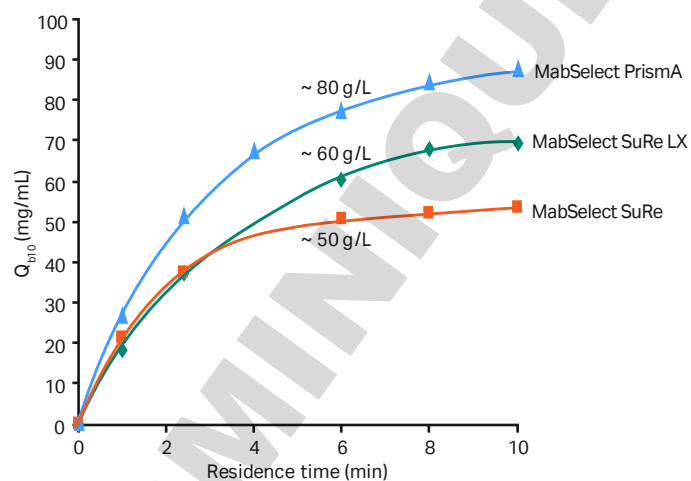

Fig 2. MabSelect PrismaA is developed to meet future demands in large-scale mAb processing.
Due to the enhanced properties of both the Protein A ligand and the base matrix design, MabSelect PrismaA offers significantly increased binding capacity compared with its predecessor, MabSelect SuRe LX resin (2). Figure 2 shows DBC of MabSelect PrismaA as compared with MabSelect SuRe and MabSelect SuRe LX resins at different residence times. Compared with MabSelect SuRe LX, the optimized base matrix of MabSelect PrismaA offers an up to 40% increase in DBC at a residence time of 2.4 min or up to 30% increased binding capacity at 4 min residence time. At 6 min residence time, a binding capacity of ~ 80 mg human IgG /mL resin was observed for MabSelect PrismaA, which is 25% higher than for MabSelect SuRe LX.